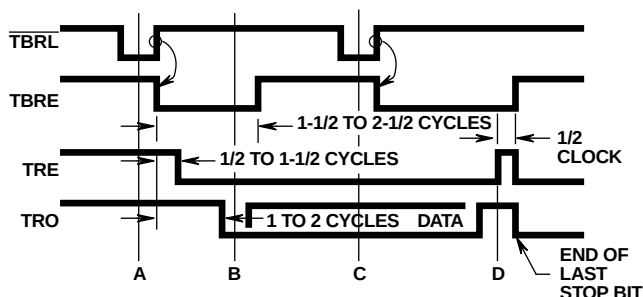

FIGURE 3. TRANSMITTER TIMING WAVEFORMS
Transmitter timing is shown in Figure 3. (A) Data is loaded into the transmitter buffer register from the inputs TBR1 through TBR8 by a logic low on the TBRL input. Valid data must be present at least t_{DT} prior to, and t_{TD} following, the rising edge of $\overline{TBRL}$. If words less than 8-bits are used, only the least significant bits are used. The character is right justified into the least significant bit, TBR1. (B) The rising edge of $\overline{TBRL}$ clears TBRE. $1/2$ to $11/2$ cycles later, depending on when the $\overline{TBRL}$ pulse occurs with respect to TRC, data is transferred to the transmitter register and TRE is cleared. TBRE is set to a logic High one cycle after that.